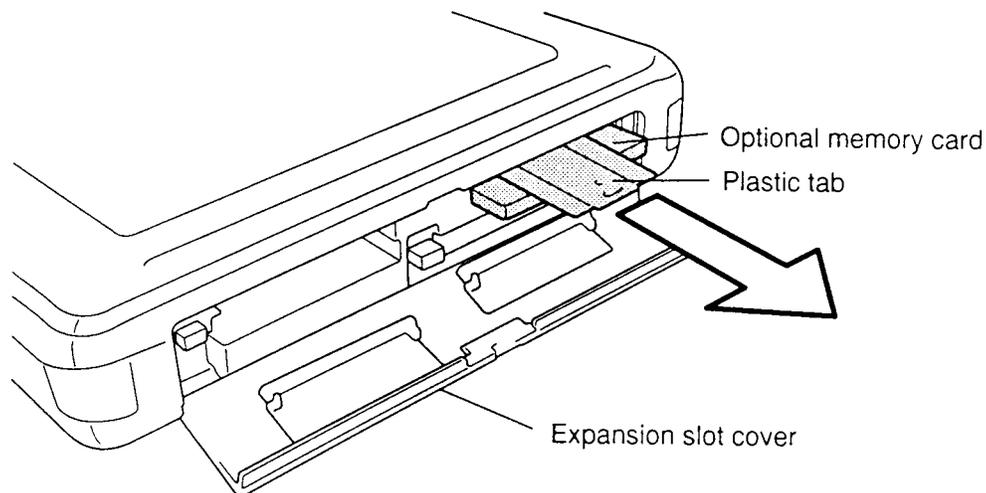

Figure 4-2 Removing the Optional Memory Card
To remove an optional memory card from the computer, follow the steps below and refer to Figure 4-2.
4. Grasp the **plastic tab** and pull it so the card comes partially out of the computer (Figure 4-2).
5. Grasp the **card** and pull it out of the computer (Figure 4-2).
To install an optional memory card in the computer, follow the steps below and refer to Figure 4-2.
1. The top of the **optional memory card** is marked with the word “insert” and an arrow pointing toward the connecting edge. Turn the memory card so that it is facing up and carefully insert the connecting edge (arrow first) into the slot. Push gently to ensure a firm connection (Figure 4-2).